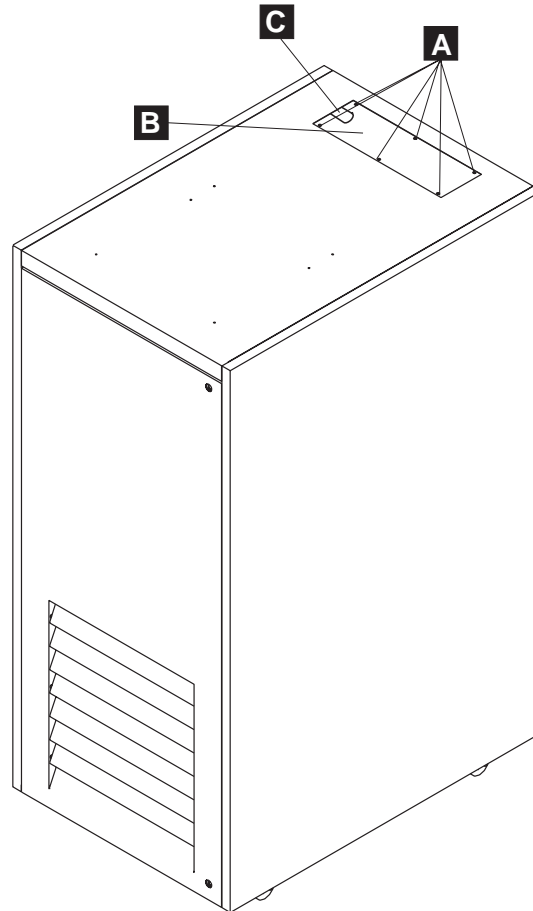

Figure 6-4. Removing of the Top Cover
1. On the top of the 29 U rack, loose and remove the six screws **A** (see Figure 6-4).
4. Reinstall the top cover **B** (see Figure 6-4 on page 6-3). Be sure that the signal and power display cables are correctly routed in the top aperture **C**. Secure the top cover with the screws **A** previously removed.